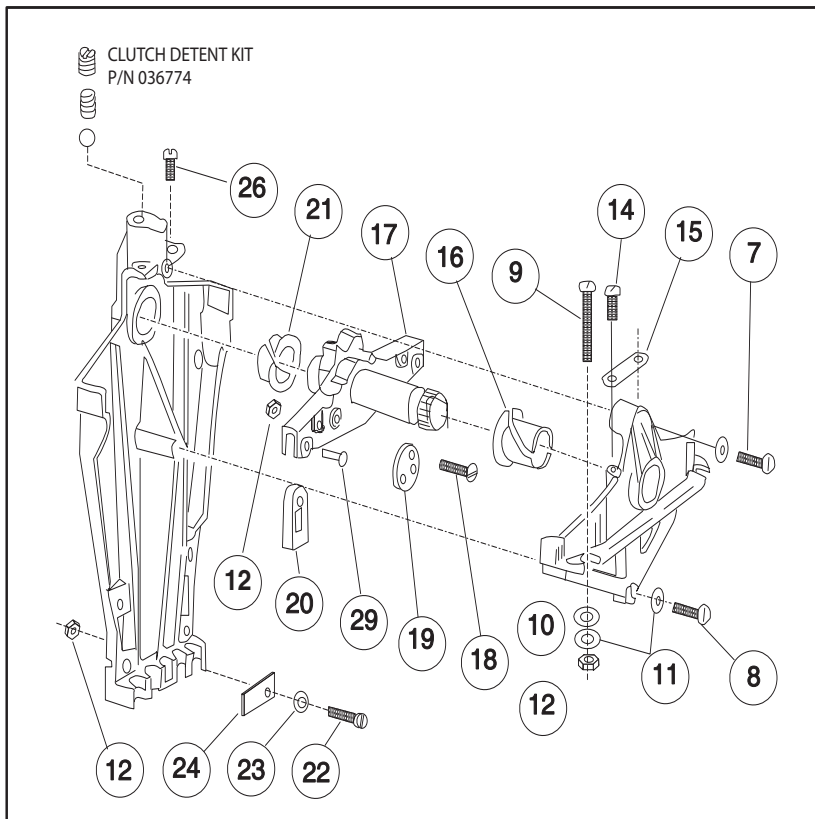

FIGURE 7- ONE HALF THE TWIN SR SHOWN
1. Typical dual station applications are shown in Figure 7.
Decorative Rebuild Kit #CA68350P Not Shown in Figure 7.
2. The following, packed with the Control and shown on Figure 7, page 6, are to be discarded: